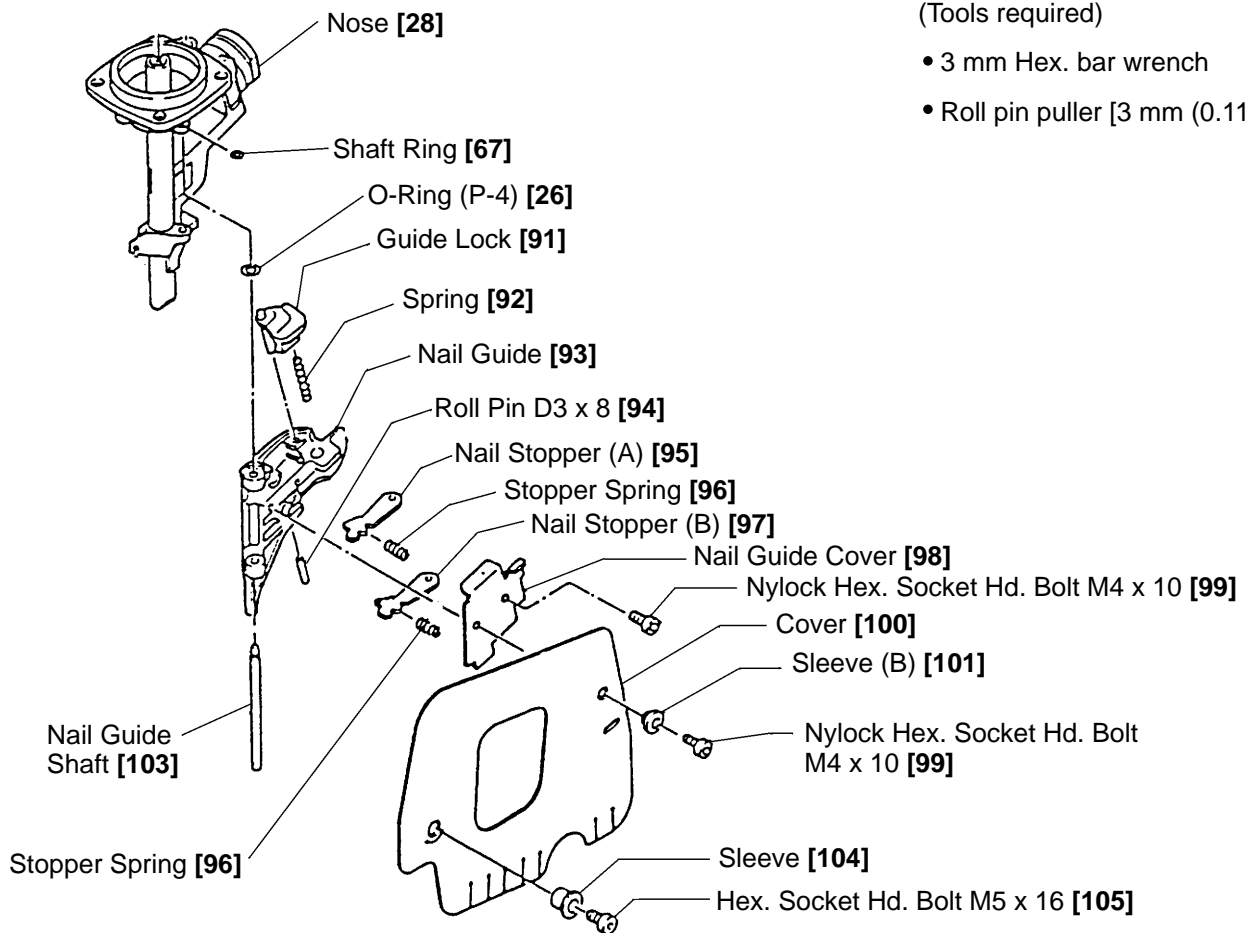

Fig. 14 Disassembly and reassembly of the nail guide
(3) Disassembly and reassembly of the Nail Guide [93] (See Fig. 14)